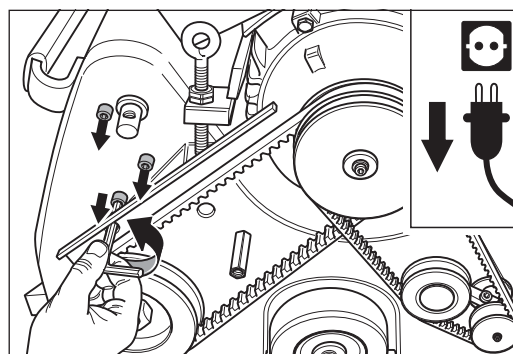

Fig. 69 Hold on the drive unit and remove the three screws **at the same time**.
- 8 Hold on the drive unit and remove the three screws **at the same time** (Fig. 69)! Therefore the drive unit cannot fall on the sanding drum.